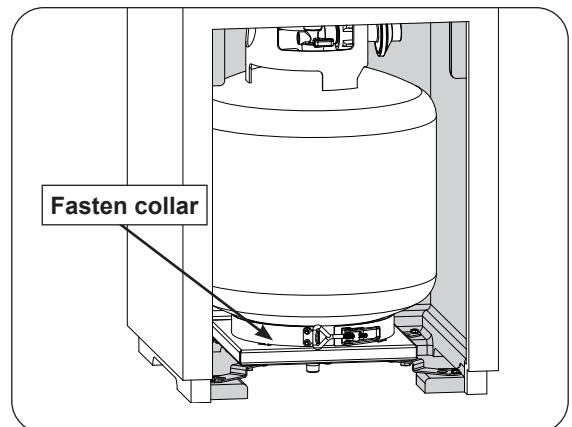
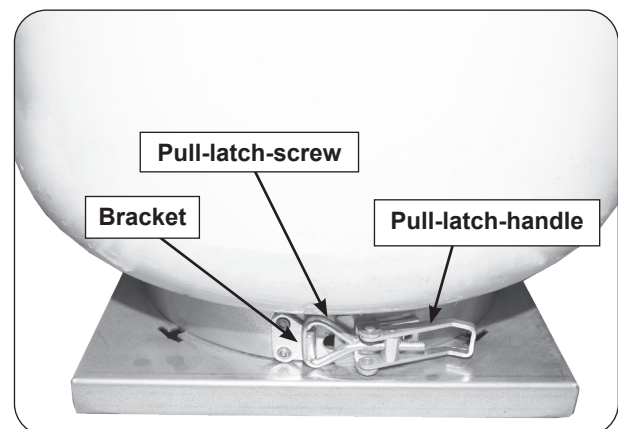

Fig. 21-2 L.P. Cylinder placement
Fig. 21-3 Secure L.P. cylinder
3. The propane cylinder (not included) is to be located inside the base of the unit, via the storage door opening. Insert the cylinder into the tank holder tray and secure it. See Fig. 21-2, Fig. 21-3, and the details below: